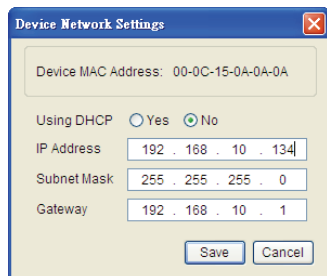

Figure 2. The Device Network setting window.
5. You can modify the IP Address, Subnet Mask, and Gateway address for the Device MAC Address listed in the Device Network Settings window, as shown in figure 2. The default IP Address is 192.168.20.177 and the default Subnet Mask is 255.255.255.0.